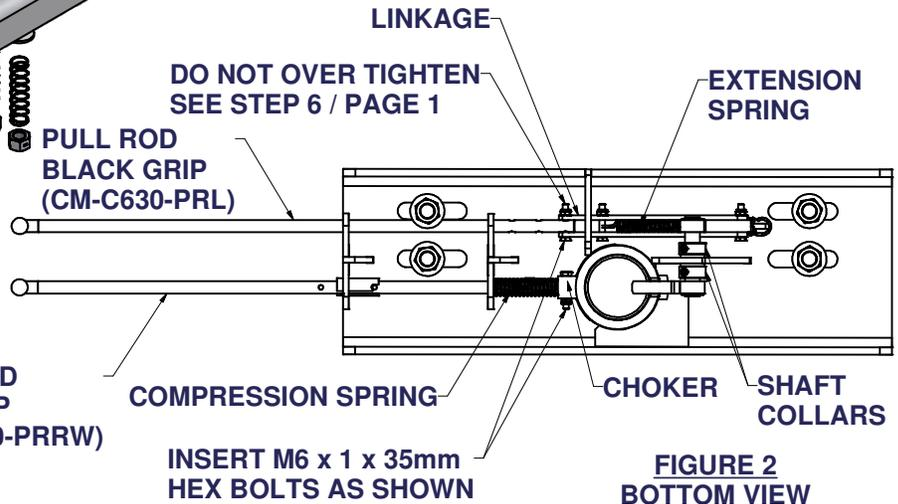

FIGURE 2
- 5) Lubricate all moving parts once a month. Keep assembly free of dirt and other foreign matter. Use cover when not in use. Check all fasteners for tightness (**Including Shaft Collar Set-Screws / See Figure 2, Page 2**) before each use. Inspect Ball and all moving parts for wear before each use. **DO NOT TOW TRAILER WITH WORN OR DAMAGED PARTS.**